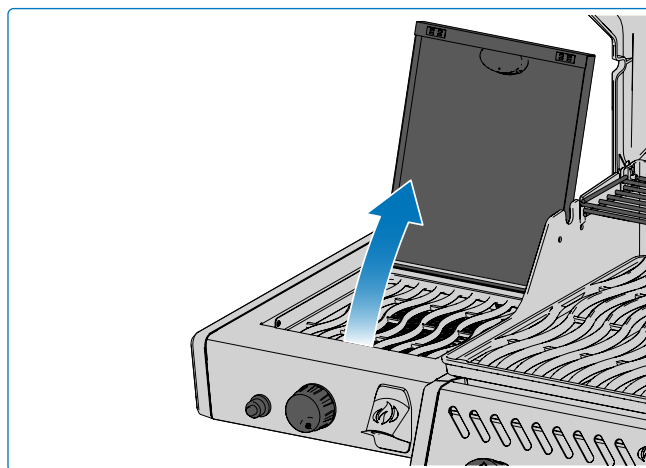

Fig. 9
A leak test confirms no gas is escaping after you connect the hose to the gas supply. Each time the tank is refilled and reinstalled, ensure that there are no leaks in the fitting where the regulator connects to the tank. Leak test this grill before use, annually, and when any gas components are replaced (**Fig 9**).
1. Open burner cover (**Fig. 9**)